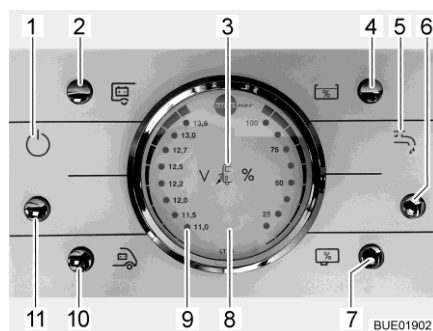

Fig. 135 Panel LT 96
The button (Fig. 135,11) switches the panel and the 12 V power supply to the living area on and off.
**Switching on:** ■ Press the button (Fig. 135,11): The 12 V living area power supply is switched on. The indicator lamp (Fig. 135,1) lights up.
**Switching off:** ■ Press the button (Fig. 135,11): The 12 V living area power supply is switched off. The indicator lamp (Fig. 135,1) goes out.
With the V/tank gauge (Fig. 135,8), note the left scale. The gauge automatically lights up as soon as a button is pressed.
- Press the button (Fig. 135,10): The battery voltage of the starter battery is displayed.
- Press the button (Fig. 135,2): The battery voltage of the living area battery is displayed.
With the V/tank gauge (Fig. 135,8), note the right scale. The gauge automatically lights up as soon as a button is pressed.
- Press the button (Fig. 135,4): The volume of water is displayed.
- Press the button (Fig. 135,7): The volume of waste water is displayed.
- Press the button (Fig. 135,6): The water supply is ON. The water pump indicator lamp (Fig. 135,5) lights up.
- Press the button (Fig. 135,6): The water supply is OFF. The water pump indicator lamp (Fig. 135,5) goes out.
The red "ALARM" warning light (Fig. 135,9) flashes as soon as the voltage of the living area battery falls below 11 V (measured under operation) and there is a risk of a total discharge.
The 12 V indicator lamp (Fig. 135,1) lights up when the 12 V main button (Fig. 135,11) is switched on.
The 230 V indicator lamp (Fig. 135,3) illuminates whenever line voltage is available at the transformer/rectifier input.